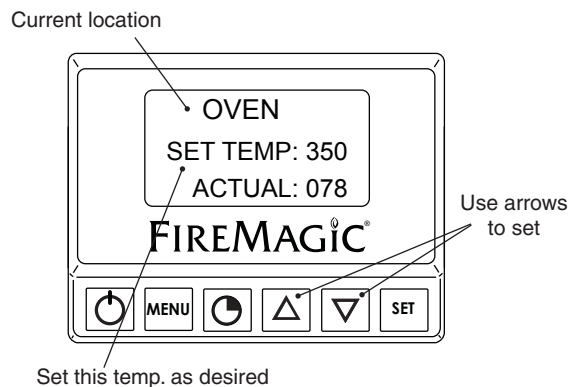

Fig. 26-1 Area temp. screen (oven shown)
2. The selected location's temperature screen will be displayed. Use the arrows to set the desired temp. The actual temp. will also be shown (see Fig. 26-1).